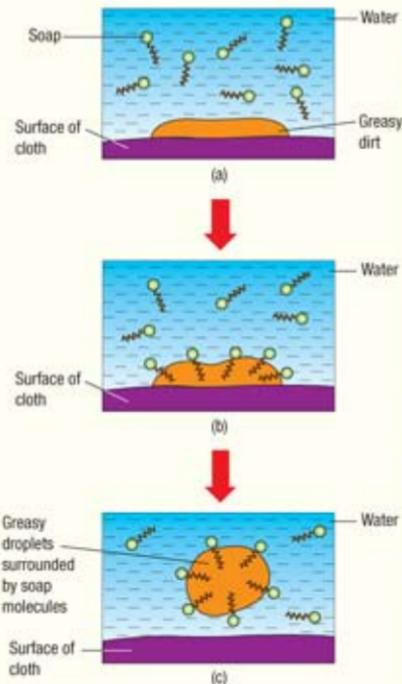

Figure 5.27 Cleansing action of soap
- the hydrophobic part of the soap molecules will dissolve and attach to the greasy dirt on the cloth surface while the hydrophilic part will dissolve in water (Figures 5.27(a) and (b)).
- scrubbing and brushing the cloth will dislodge the greasy dirt from the cloth surface to form greasy droplets that are surrounded by soap molecules and suspended in soapy water (Figure 5.27(c)).